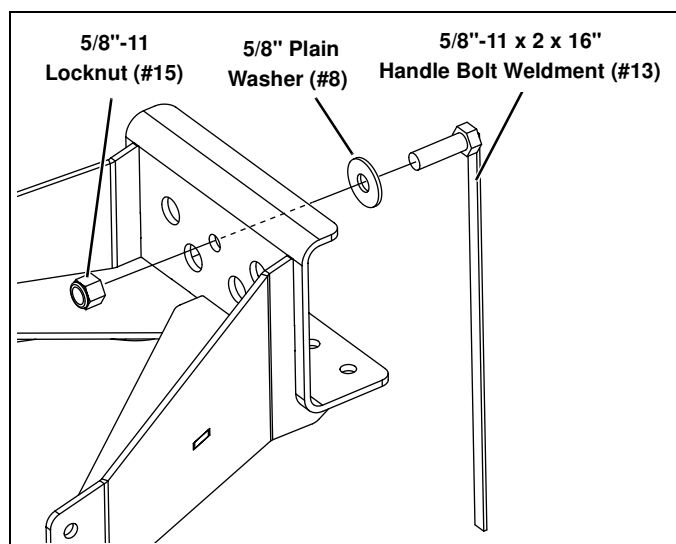

Figure 6
- Remove any skid plates that may be attached to the rear cross member, then attach the Cross Member Weldment (#3). Align the center slot of the vehicle's cross member with the hole center hole of the Cross Member Weldment (#3) and secure using (1) 5/8" Plain Washer (#8), (1) 5/8"-11 x 2" x 16" Handle Bolt Weldment (#13), and (1) 5/8"-11 Locknut (#15). (See Figure 6.)